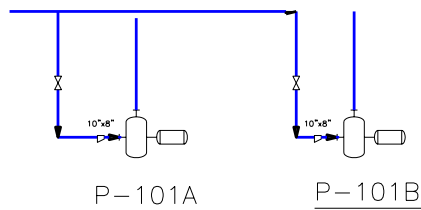

Figure 2-74 A gate valve and an eccentric reducer placed on the line connecting the second pump
5. Similarly, place an eccentric reducer and a gate valve on the pipe connecting the other pump, as shown in Figure 2-74.